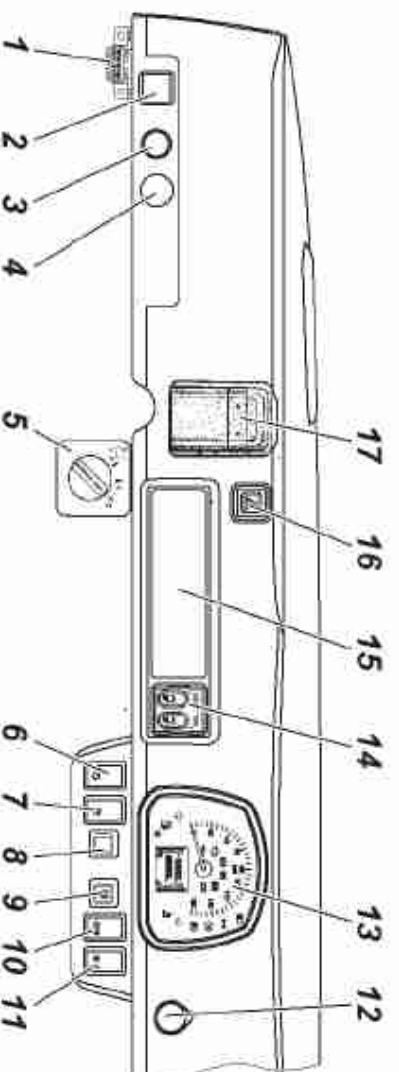

Fig. 3.3. Instrument panel (see item description in the text):
- 1 — instrument panel (Fig. 3.3);
The following is installed on the instrument panel (Fig. 3.3):